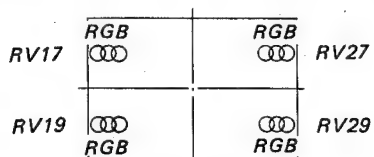

Fig. 1-18.
9. Adjust RV17, RV19 and RV27, RV29 on the DB board to coincide with the R, G and B dots as shown in Fig. 1-18.